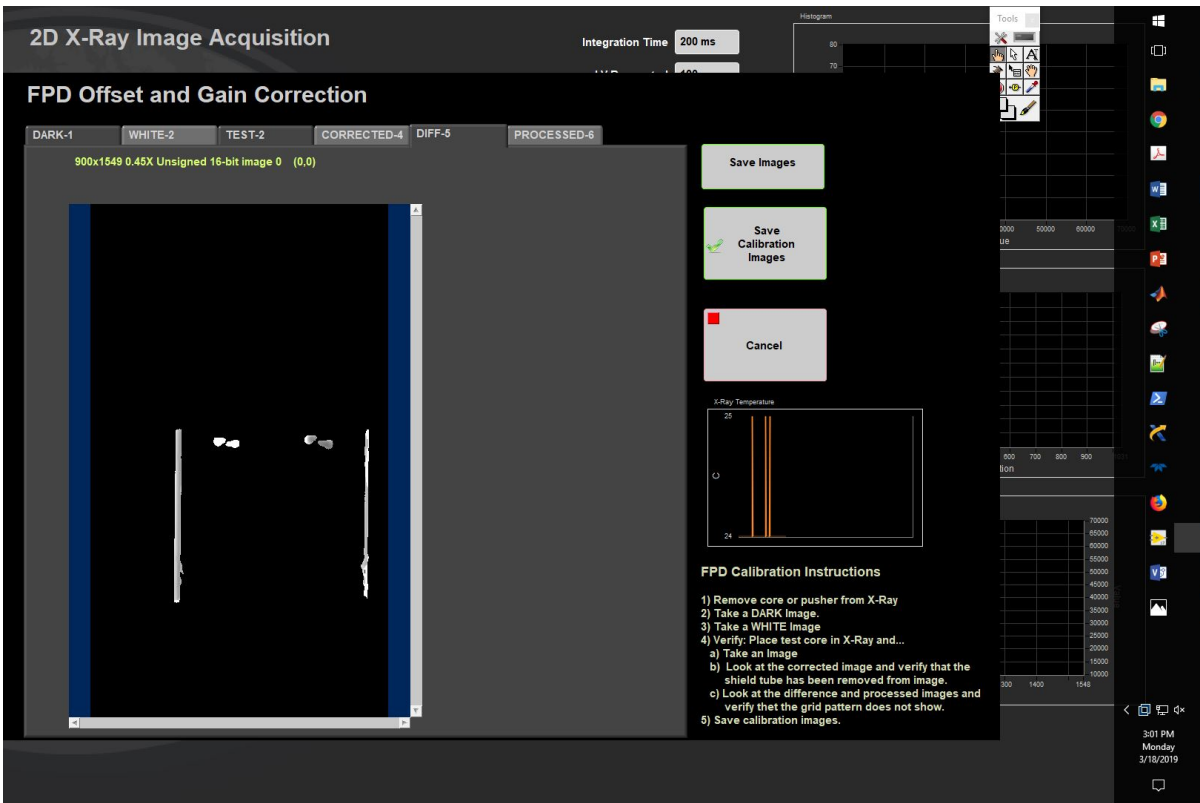

Figure 28- Difference Image Tab
5. Select the DIFF-5 tab to view the DIFFERENCE image (Figure 28)